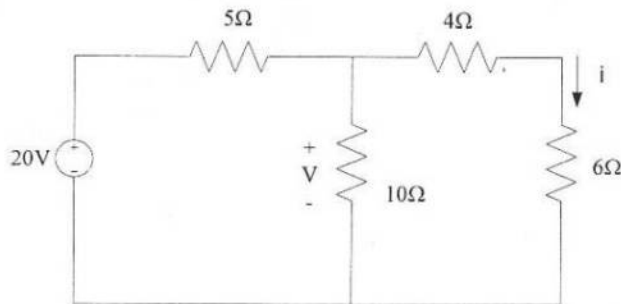

Figure 6(a)
- b. Use source transformation to find V_o in Figure 6(b) [15]